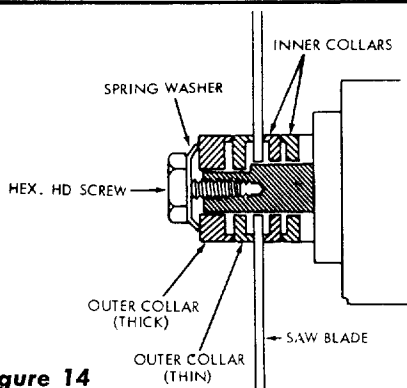

Figure 14
- f. Install the thin outer collar on motor shaft, with recessed side against the blade. (See figure 14.)